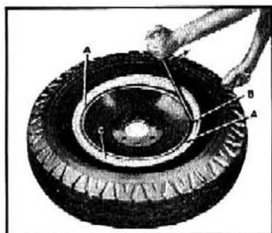

Fig. 67—¾ Ton Tire Installation
6. Place the retainer ring on the wheel rim and start the side of the ring opposite the square notch into the rim gutter, at "C" (fig. 67) making sure the two cutaway portions of the ring rest on the sides of the wheel at "A." Hold the first portion of the ring in the rim gutter and pry the remaining portion over the wheel rim. To pry the last portion into place, insert the tire iron in the notch "B," thus putting tension on the ring, and tap the ring with a hammer until it drops into place.